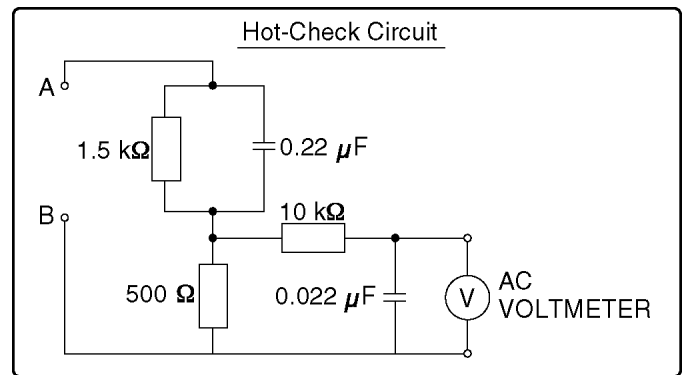

Figure 1
2. Connect "A" to exposed metallic part on the set. And connect "B" to a good earth ground, as shown in Figure 1.